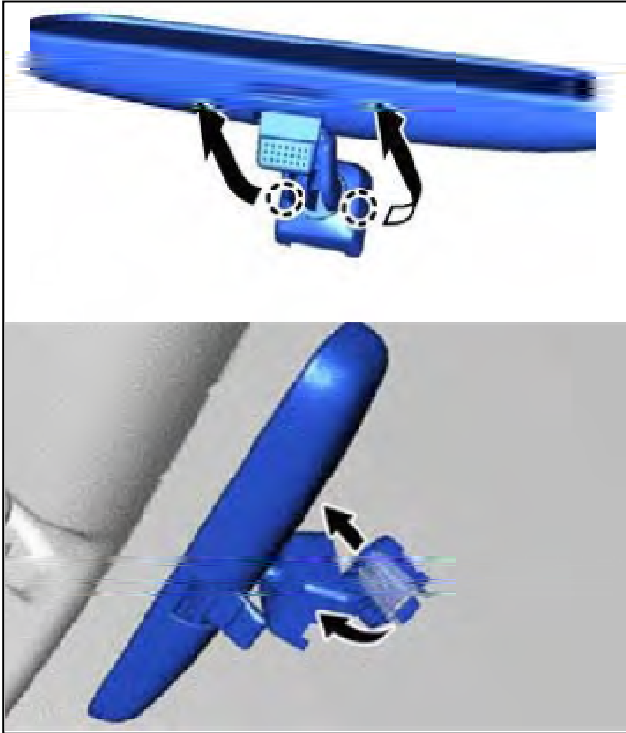

Figure 5a
- 5a. Remove factory mirror. Pinch the cover and detach the 2 claws. Then remove the cover. Push the lever and then slide and remove the inner rear view mirror. See figure 5a.